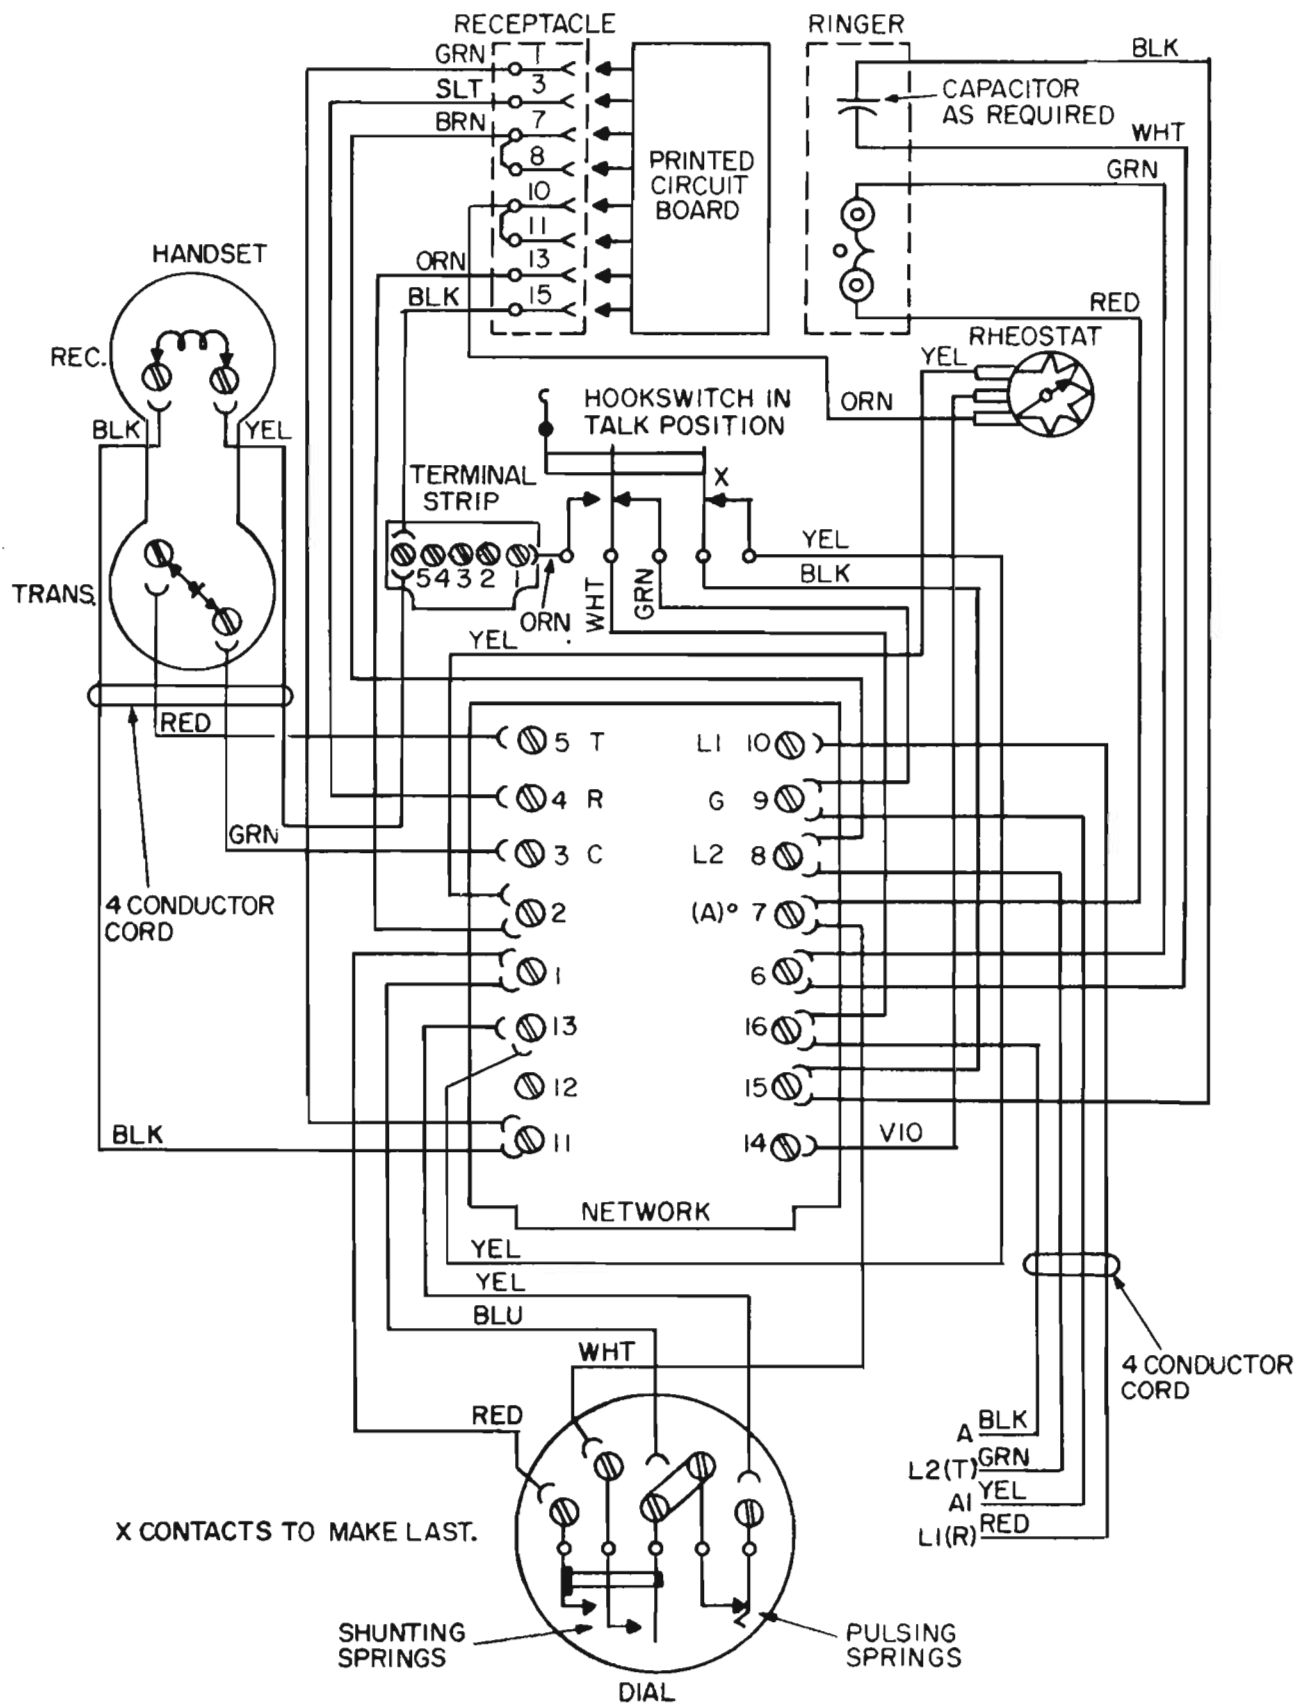

Figure 3. Wiring Diagram of Modified Type 80T Telephone Set Equipped With D-38368-A Network.
3.01 The wiring diagram of a Type 80T telephone set equipped with a D-38368-A network is shown in Figure 3 as modified for key system operation. This network contains a 1 μ fd. capacitor connected between terminals 12 and 13, so the former terminal is not available for interconnection of leads and no external capacitor is required for dial pulse contact spark suppression. An additional point of interconnection is provided by an auxiliary terminal strip which mounts on the tripod structure directly below the hookswitch actuating lever.